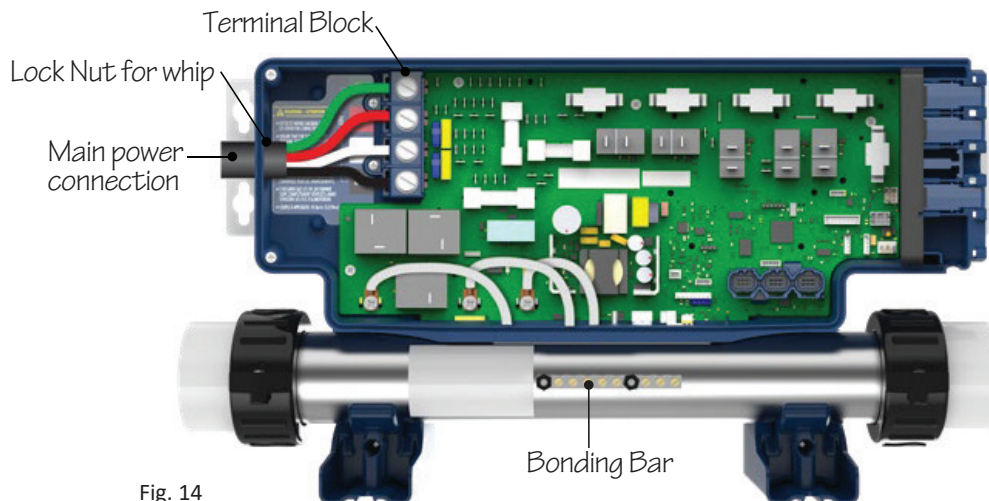

Fig. 14
14. Secure the electrical whip to the controller and attach the incoming power wires to the Terminal Block. Re-attach the copper bonding wires to the Bonding Bar (Fig. 14).